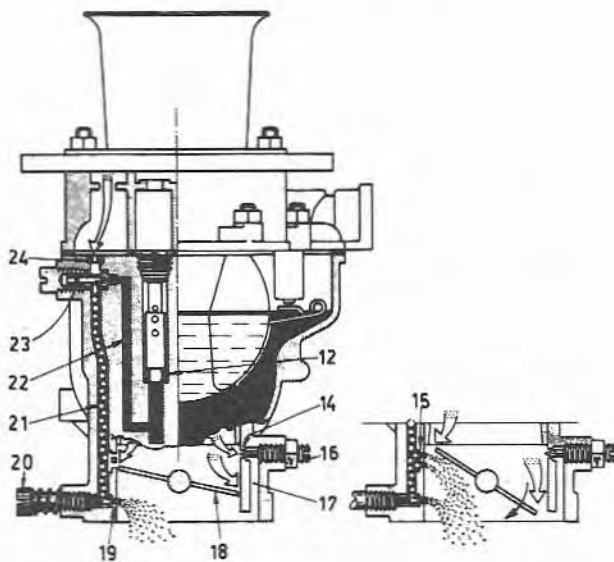

Fig. 8.4 Idling and progression phase (triple choke types) (Sec 3)
Refer to Fig. 8.4 and note that when the engine is idling with the throttle valves (18) closed, fuel is drawn from the emulsion tube wells (12), along the channel (22) to the idling jets (23) where it becomes emulsified with air entering through the calibrated orifices (24). The mixture then passes through the channel (21), past the mixture screws (20), through the idling feed holes (19) and into the carburettor throats at the engine side of the throttle valves. The idling mixture screws (20) have tapered ends and can be adjusted to admit more or less mixture as necessary.